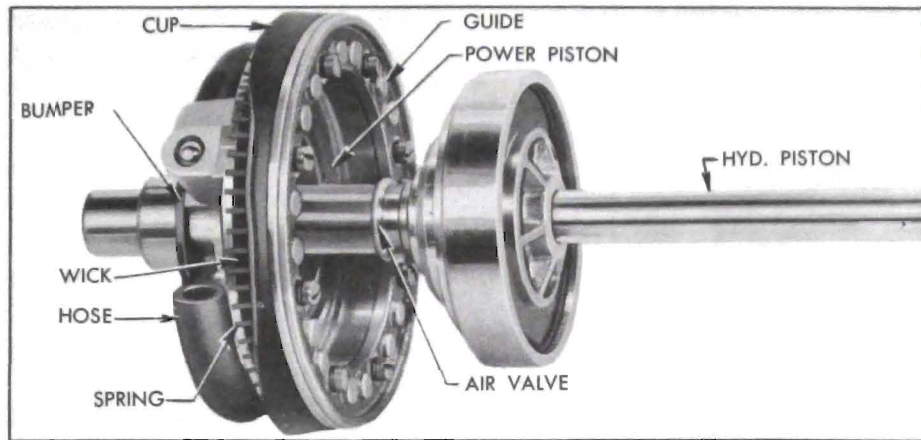

Figure 9-19—Power Piston With Air Valve and Hydraulic Piston Assembly
5. Remove power piston from air valve, figure 9-19, then place the valve and hydraulic piston assembly where the polished surfaces of valve and piston will not be damaged by contact with other parts.
14. Place the felt lubricating wick in the expander spring, saturate wick with oil specified for Dynaflo transmission (par. 1-4), then install in groove of power piston with spring fingers outward and pointing toward bumper end of piston. With leather piston cup retained in the cardboard ring in which it is shipped, install cup over expander spring, making sure it is centered, then install piston guide and attaching screws with lockwashers. See figure 9-19.